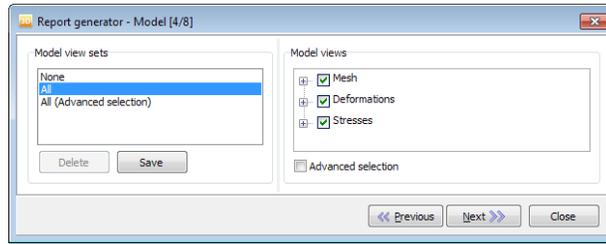

Figure 278: Report generator - Model
**Step 4:** Select model view sets to be displayed in the report. Note that the selection can be saved as a new set besides *All* and *None* sets (Figure 278: Report generator - Model (on page 426)).